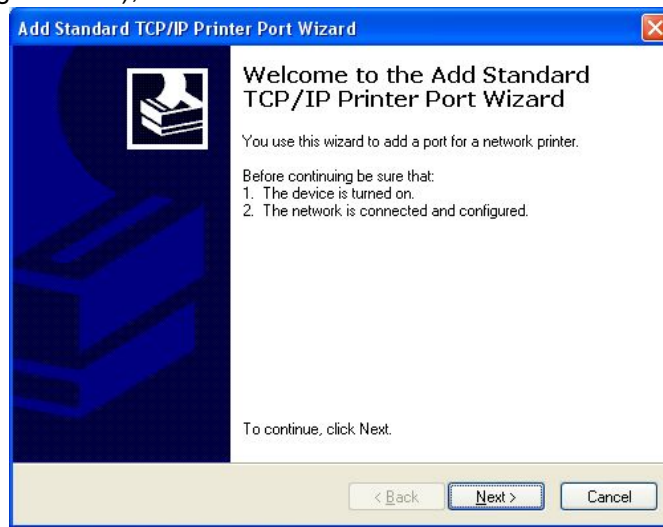

Figure 5.3.4
4) Click “Next” (see Figure 5.3.4);